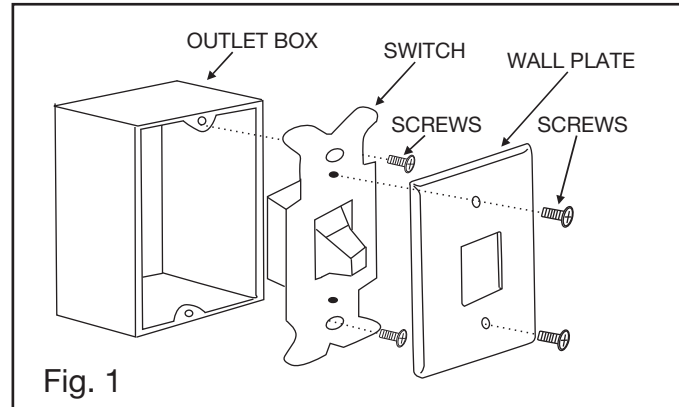
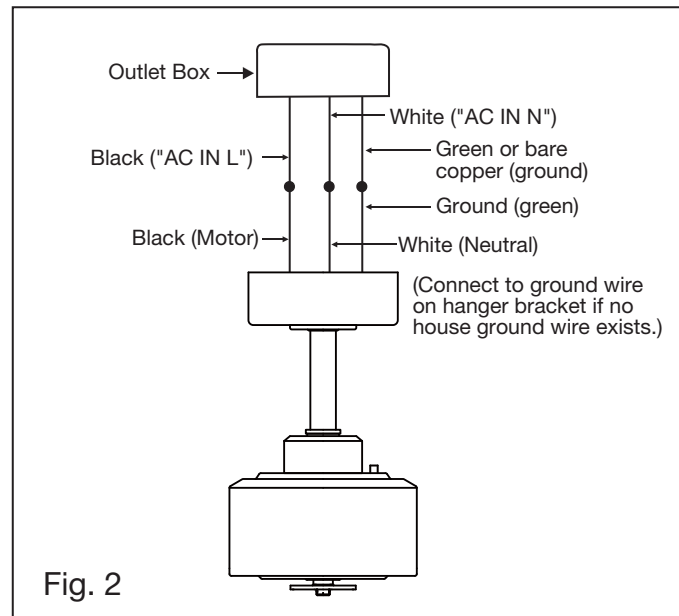

Fig. 1
Fig. 2
- 1 Remove ball from downrod by loosening set screw in the side of the ball. Slide ball down and remove ball pin; remove ball. (Fig. 1)
- 3 Loosen the two security set screws and remove the downrod pin instead of hitch pin from the coupling on top of the motor assembly. (Fig. 2)
- 1 Disconnect the power and remove the existing wall plate and switch from the wall junction box. (Fig. 1)
- 1 Connect the fan supply (black) wire to the black household supply wire as shown in Figure 2
- 2 Connect the neutral fan (white) wire to the white neutral household wire (Figure 2).
- 1 Place blade over blade arm and align blade with mounting holes in blade arms. Repeat this procedure without tightening the screw until all 3 screws and nuts have been started into the blade arm (Fig. 1).
- 3 Fasten blade assembly to motor with provided screws and lock lockwashers by uses Blade Arm Wrench. (Fig. 1) Repeat procedure for remaining blades. Make sure screws are TIGHT! Loose motor screws can contribute to unnecessary hum during operation. (Fig. 2)